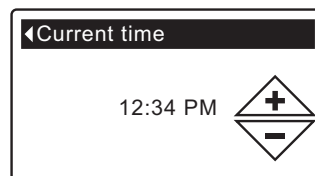

FIG. 39
5. Press the SELECT (O) button to display the Current time screen (See Figure 39).